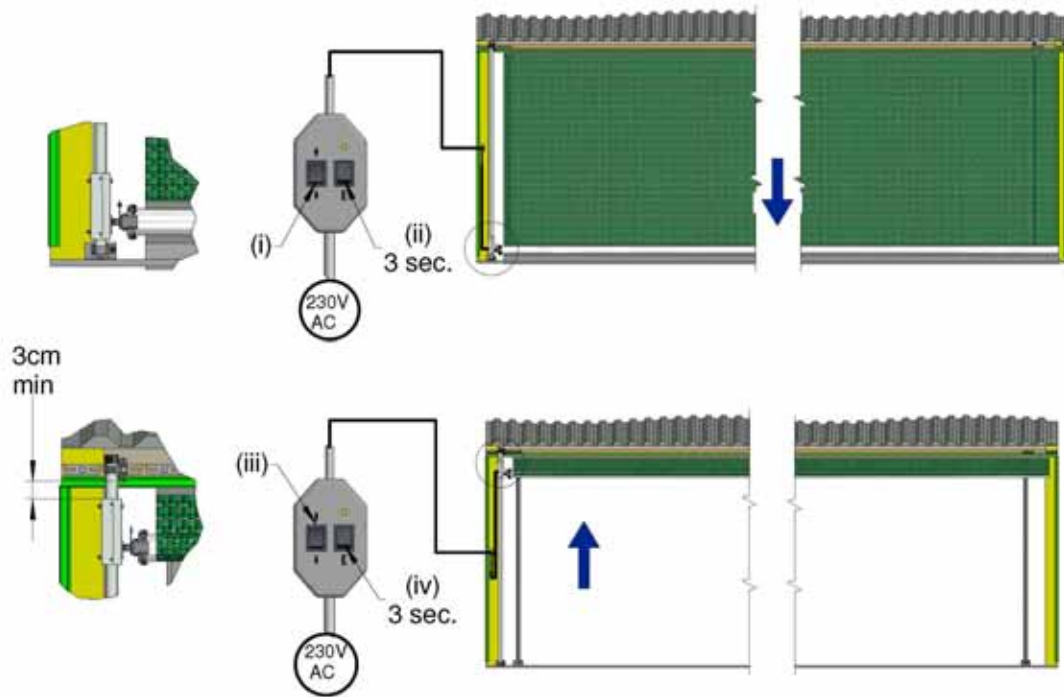

Figure 20a, Setting the limits (i)
Step 1: Close the system until it is fully down and press the 'E' button for 3 seconds, Figure 20a.